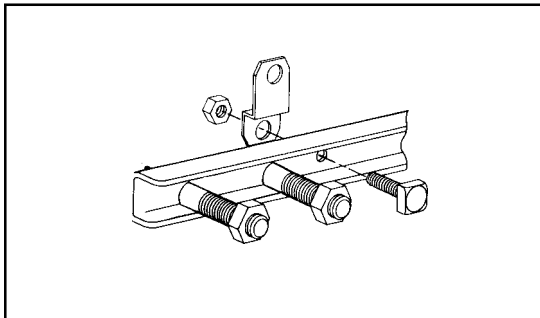

FIGURE 43 – AERIAL INSTALLATION
17.01 Place two lashing wire clamps (not supplied) on the suspension strand; (Figure 43) one directly above each aerial suspension plate that was placed in Step 15.02.